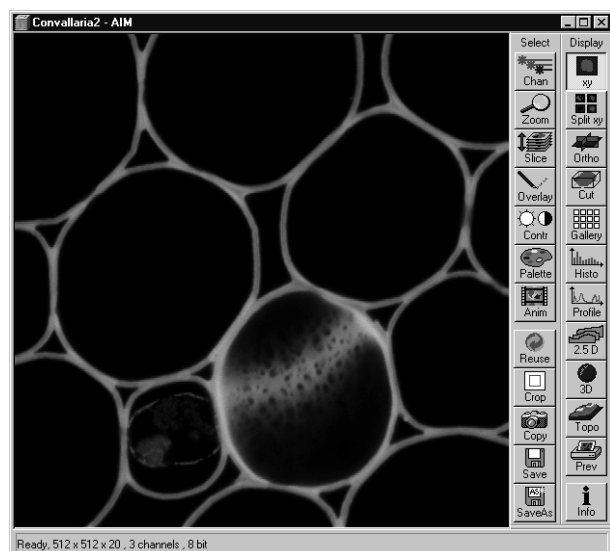

Fig. 4-201 Image Display window
- Assign the value **1** to a variable named **Index** (Fig. 4-201).